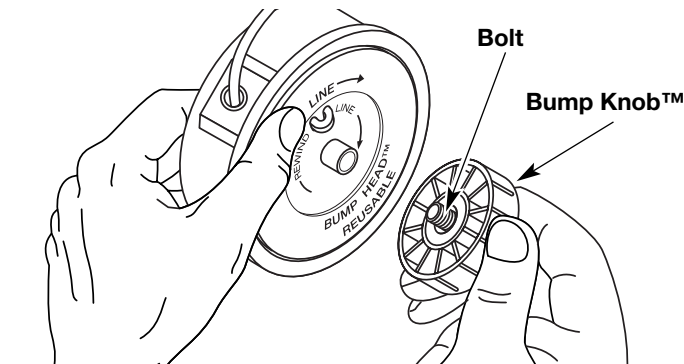

Fig. 12
1. Hold the outer spool with one hand and unscrew the Bump Knob™ counterclockwise (Fig. 12). Inspect the bolt inside the Bump Knob to make sure it moves freely. Replace the Bump Knob if damaged.
1. Hold the outer spool with one hand and unscrew the bump knob counterclockwise (Fig. 12). Inspect the bolt inside the bump knob to make sure it moves freely. Replace the bump knob if damaged.